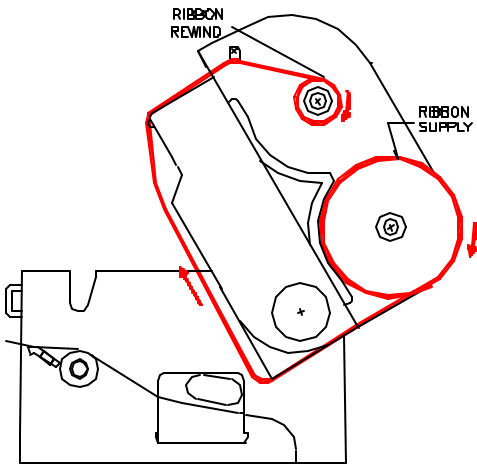

Fig. 2.2.4
6. Pass the front edge of the new ribbon through the printhead assembly, and then stick the front edge to the paper core of the rewind spindle (see figure 2.2.4).